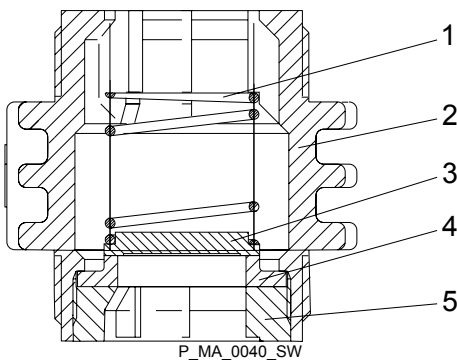

Fig. 23: Cross-section through the plate valve
1. ➤ Screw the valve cap (7) on to the suction side - see Fig. 23.
2. ➤ Carefully remove the parts from the valve body (4).
6. ➤ Place the compression spring (3) inside the valve body (4).